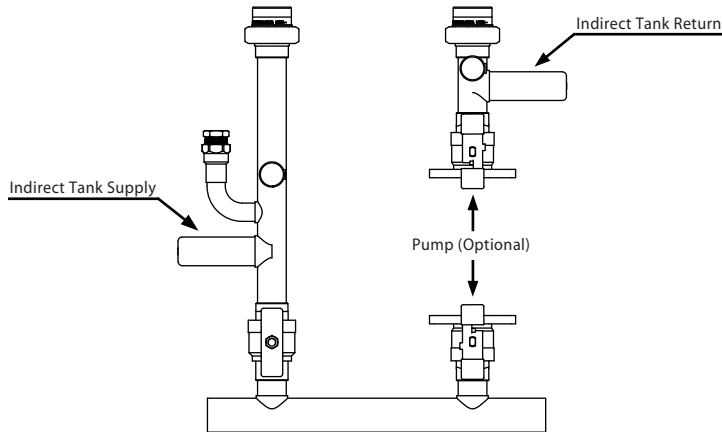

FIGURE 3: Available Ports on the NFB-175/200 Series Manifold
- Additional accessories such as relief valves, indirect hot water tanks, or temperature/pressure gauges can be installed onto the additional ports below (see **FIGURE 3**). Stub outs are provided for the direct connection of an indirect water heater. Refer to the NFB Installation and Operation Manual for accessory piping and wiring requirements.